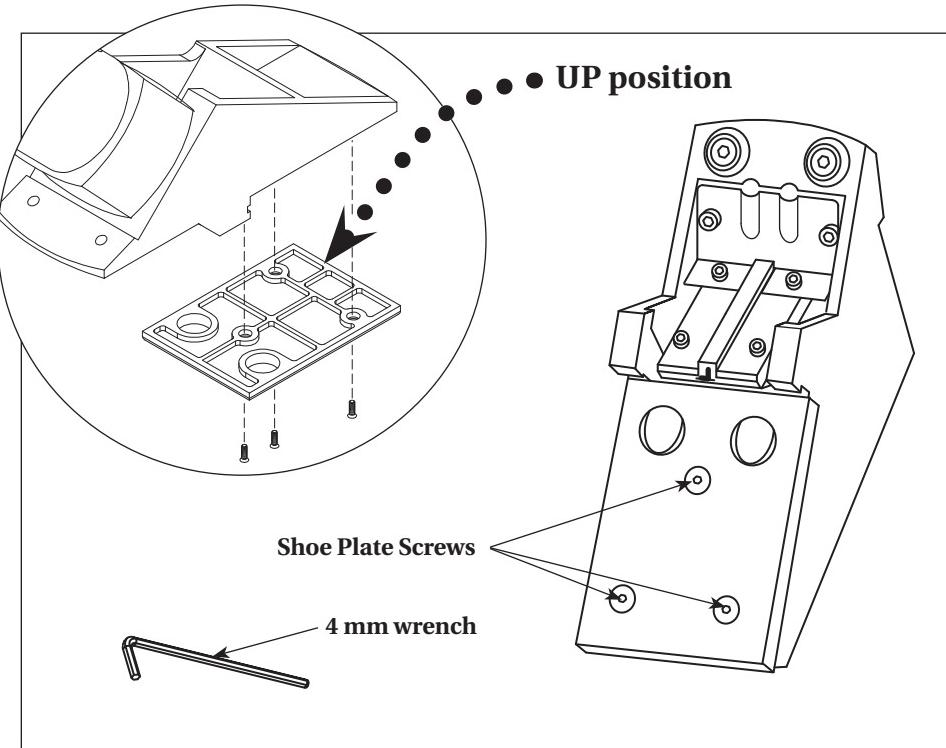

Figure 11 - UP position of shoe plate
2. Using provided 4 mm wrench, remove the three shoe screws (*see Figure 11*).